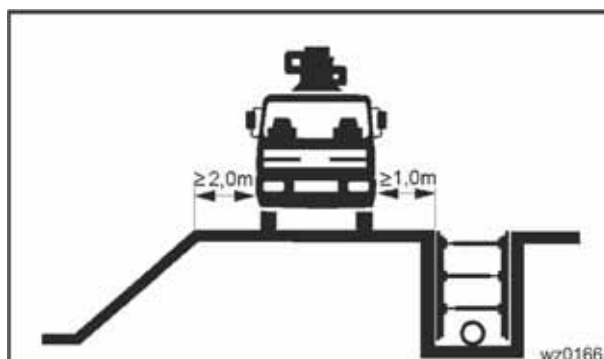

Fig. 53 Distances from excavation pits
- Maintain the prescribed safety distance between the machine and excavation pits (Fig. 53 Distances from excavation pits).